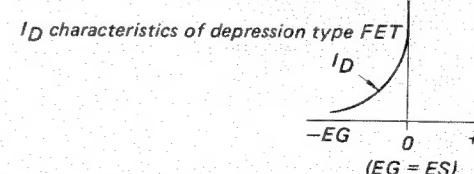

Fig. 13
- Q403 is a 2SK42 N-channel depression type FET. As shown in Fig. 13,  $EG = ES$  when gate and source are connected, resulting in the flow of a constant current of less than 5mA.